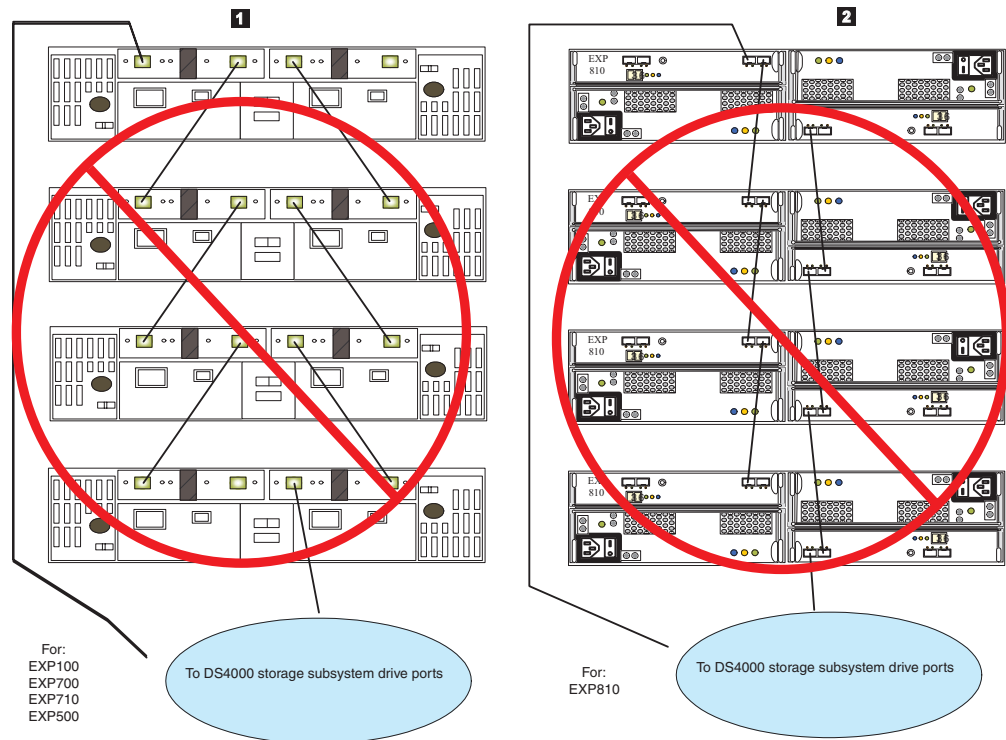

Figure 38. Unsupported cable loop scheme for connecting storage devices (1 of 2)
**Note:** The cable loop scheme in Figure 38 is unsupported because both drive loops are connected to the IN port of the EXP700 storage enclosure. Although this restriction does not specifically apply to other storage enclosures, you should still avoid connecting both drive loops in the IN port to prevent accidental unsupported cabling in the EXP700 storage enclosure environment.